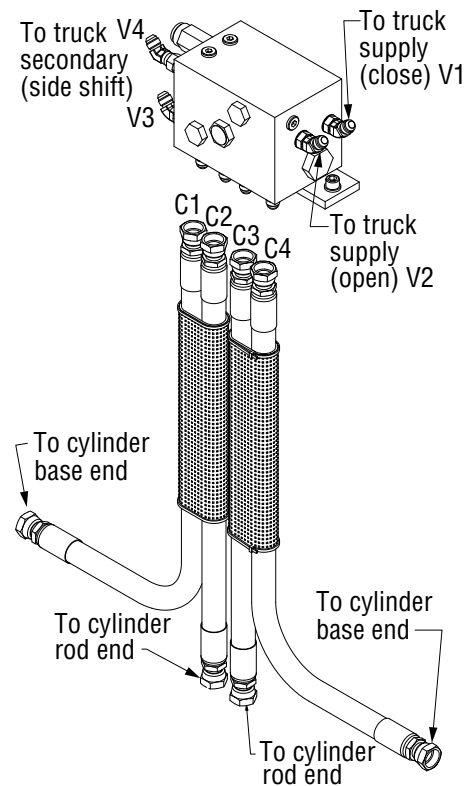

Figure 5-14, Hydraulic Valve
2. Disconnect the hydraulic hoses from the truck at the attachments valve ports V1 (open) and V2 (close) (Figure 5-14). Cap hose ends to prevent contamination and tag for reassembly.